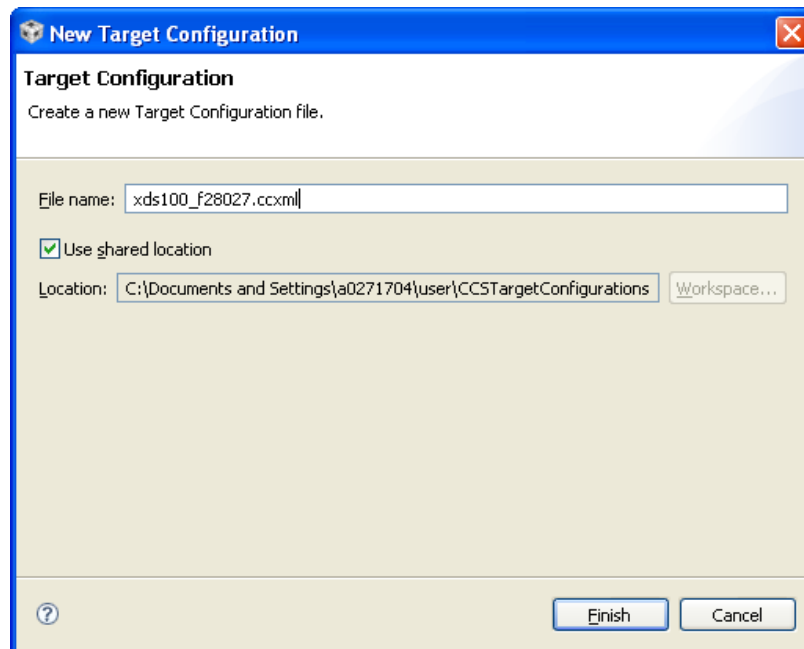

Figure 12: Creating a Target Configuration
- 6) This should open up a new tab as seen in Figure 12. Select and enter the options as shown: